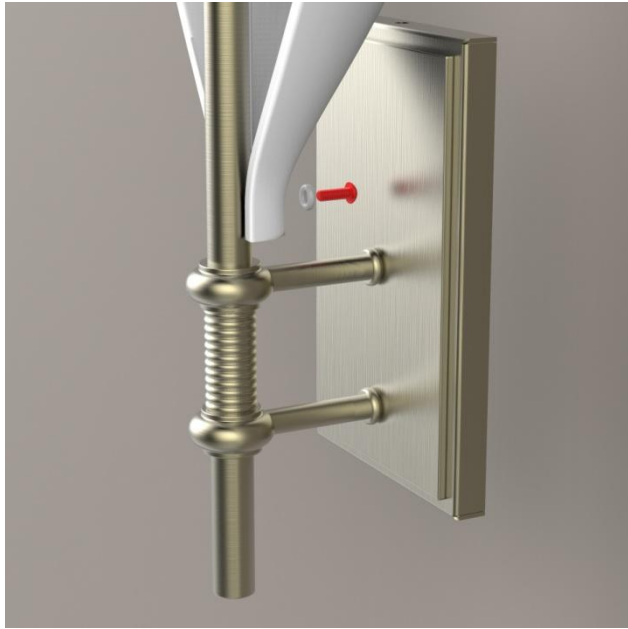

Figure 5
- Secure shade to rod with screw and white rubber O-ring (Figure 5). Screw requires a hex key.